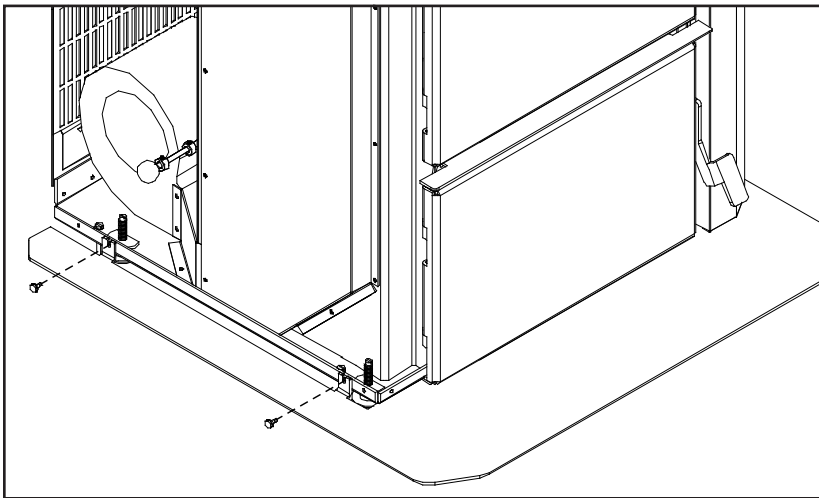

Figure 4: Maxx-M Hearth Shield Installation.
1. Remove the right and left hand cabinet sides. Partially back out the two (2) T-20 Torx screws on the back of the each panel and the two (2) located on the front inside edge below the louvers and ash shelf. Pull the panel forward then remove.
3. Secure the shield to the unit with two (2) screws on each side (see Figure 4).